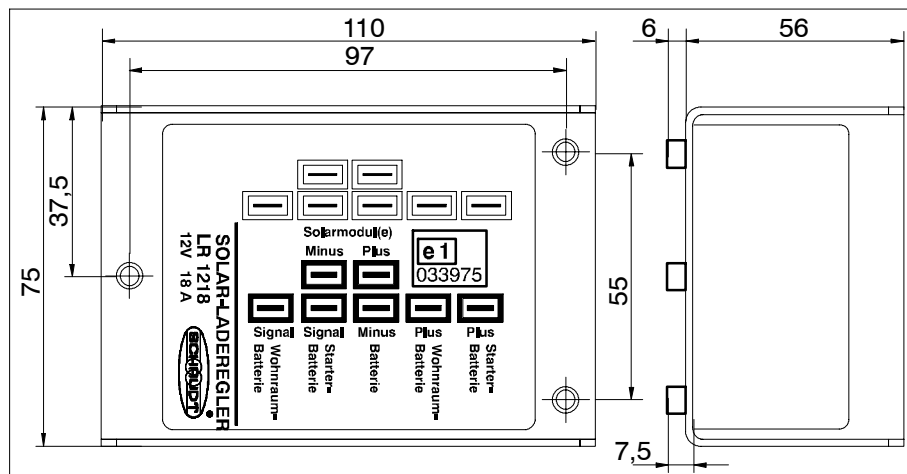

Fig. 1 Dimension Diagram of LR 1218 Solar Charge Regulator (dimensions in mm)
- ▶ On a stable and even surface, attach the solar charge regulator to the drillholes with three screws (Fig. 1, Pos. 6).